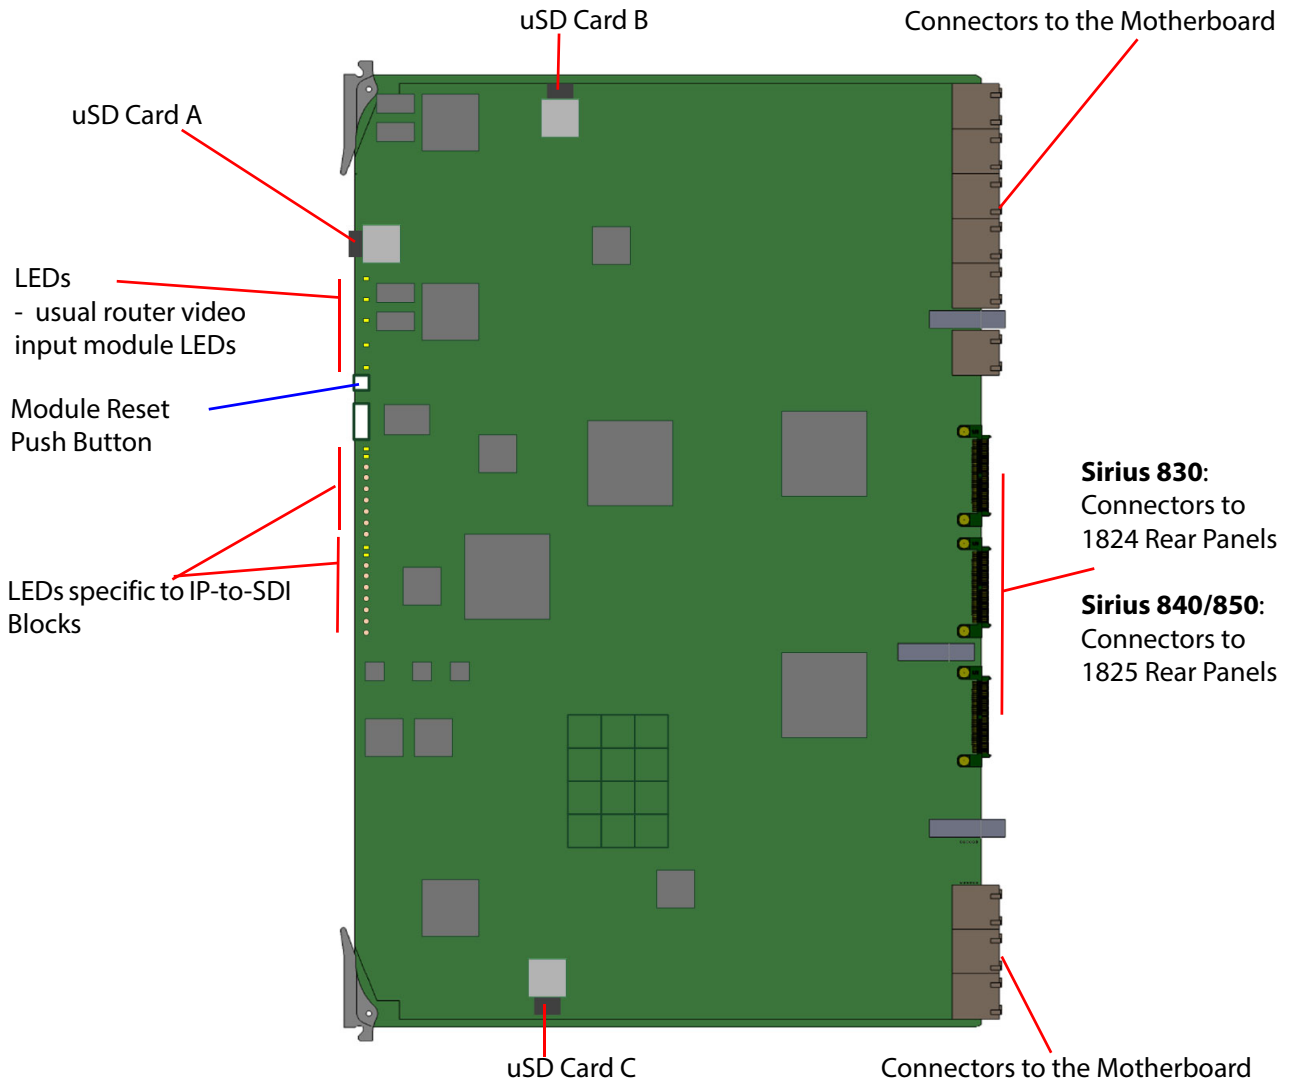

Figure 128 5960 Video IP 24 Channel Video Input Module
**Note:** The 5960 has 3 micro SD cards (see Figure 128) containing board software/firmware: